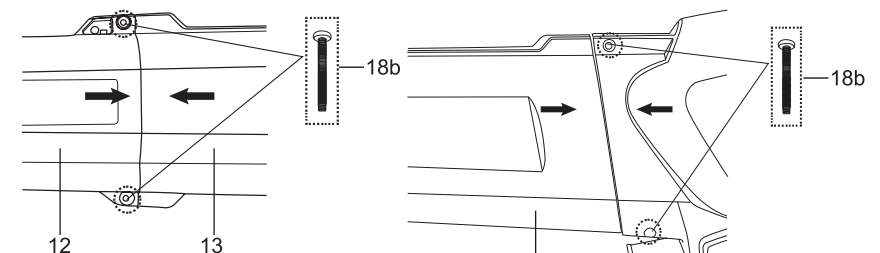

Fig. 1
1. Align the lower tube (12) to the upper tube (13) and insert it all the way to the stop. Secure the connection with the bolt (18b). (Fig. 1)